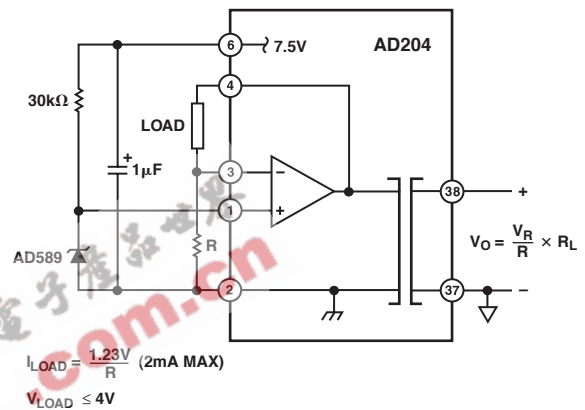

Figure 21. Floating Current Source
**Floating Current Source/Ohmmeter.** When a small floating current is needed with a compliance range of up to  $\pm 1000$  V dc, the AD204 can be used to both create and regulate the current. This can save considerable power, since the controlled current does not have to return to ground. In Figure 21, an AD589 reference is used to force a small fixed voltage across R. That sets the current that the input op amp will have to return through the load to zero its input. Note that the isolator's output isn't needed at all in this application; the whole job is done by the input section. However, the signal at the output could be useful as it's the voltage across the load, referenced to ground. Since the load current is known, the output voltage is proportional to load resistance.